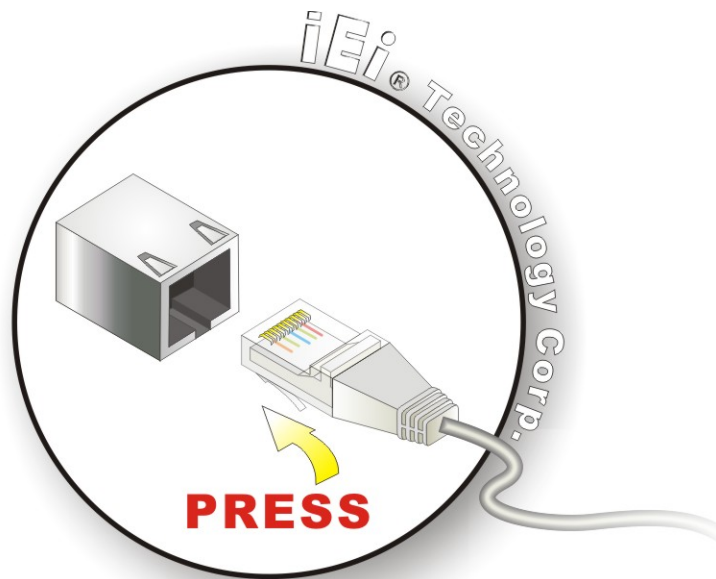

Figure 5-22: LAN Connection
Step 2: **Align the connectors.** Align the RJ-45 connector on the LAN cable with one of the RJ-45 connectors on the PCIE-9452. See **Figure 5-22**.
Step 2: Align the connectors. Align the USB device connector with one of the connectors on the PCIE-9452. See **Figure 5-22**.